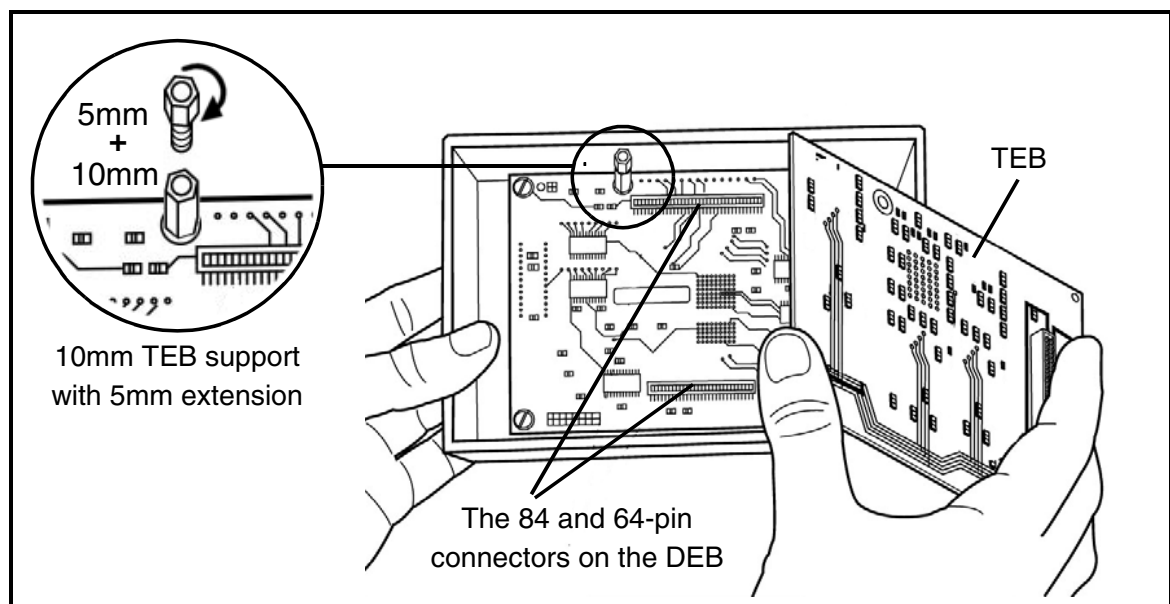

Figure 12: DEB and TEB connectors
The board under the TEB – the Dedicated Emulation Board (DEB), should now be visible (see Figure 12).
- 4 Identify the top and bottom faces of the TEB you wish to install. The bottom face is distinguished by the presence of two or more flex cable connectors placed side by side. The top face is distinguishable by two DEB connectors along the long edges of the TEB. There is one 84-pin connector and one 64-pin connector, which match the DEB connectors shown in Figure 12.
- 5 Install the replacement TEB in the EMU3 probe by inserting the male 84-pin/64-pin connectors into the TEB's female 84-pin/64-pin connectors (refer to Figure 12). Because the connectors are asymmetric, there is only one possible connection scheme.
Note: For some TEBs, the microcontroller is mounted on a support and not soldered directly to the board. In this case the TEB's 84-pin and 64-pin connectors have an additional height of 5mm to allow enough room for the microcontroller. To compensate you will need to add a 5mm extension to the 10mm support on the DEB, as shown in Figure 12 on page 23. The 5mm extensions are provided with your TEB and screw into the 10mm supports. However, remember that if you install a TEB with surface mounted microcontroller later, you will have to remove the 5mm extensions.